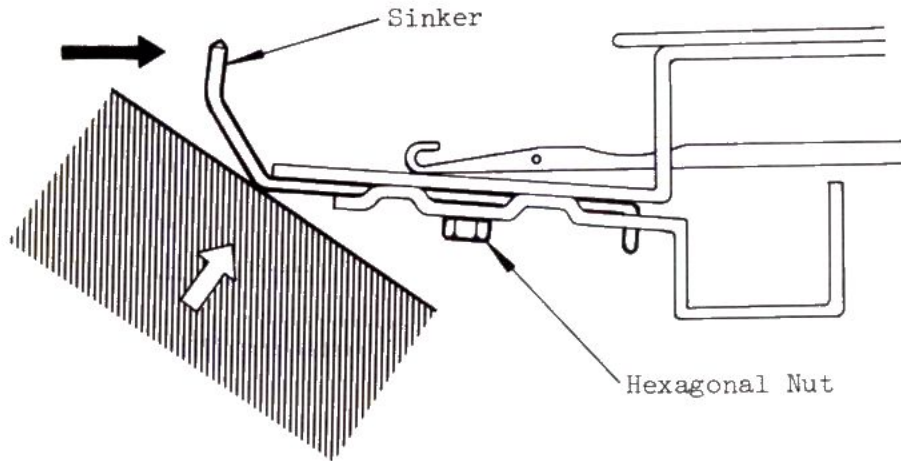

Fig. 28
2. Press the bottom of the sinkers, as shown in Fig. 28 and indicated by the white arrow, with the rounded side of a wooden hammer, or any wooden material available, as if you were rubbing it, and the sinkers can be moved towards the Needle Bed.